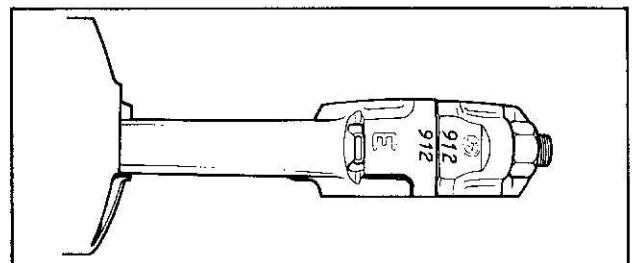

Fig. 3
7. Each connecting rod and cap is marked with a serial number, Fig. 3. The connecting rod only is also marked with its relevant cylinder number, on the opposite side to the serial number.